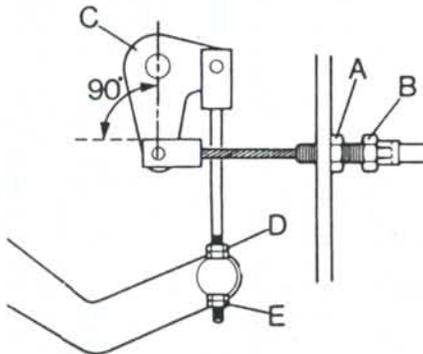

Fig. 157—View showing pto linkage adjustment for 1490 low profile tractors.
To adjust pto clutch, move hand lever to disengaged position. Check angle between centerline of crank lever and cable as shown in Fig. 157. The angle must be 90° and is adjusted by turning cable adjuster sleeve (B). Measure free movement of pto clutch hand lever. If necessary, adjust control rod nuts (D and E) to obtain lever free movement of 63 mm (2 1/2 inches).